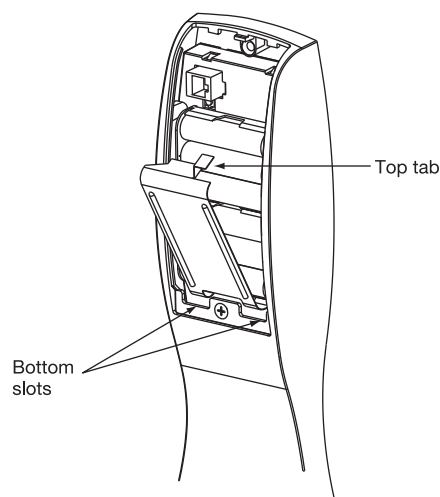

Fig. 3
4. Install battery keeper clip by inserting tabs into bottom slots. To remove keeper, pull on top tab (Fig. 3).